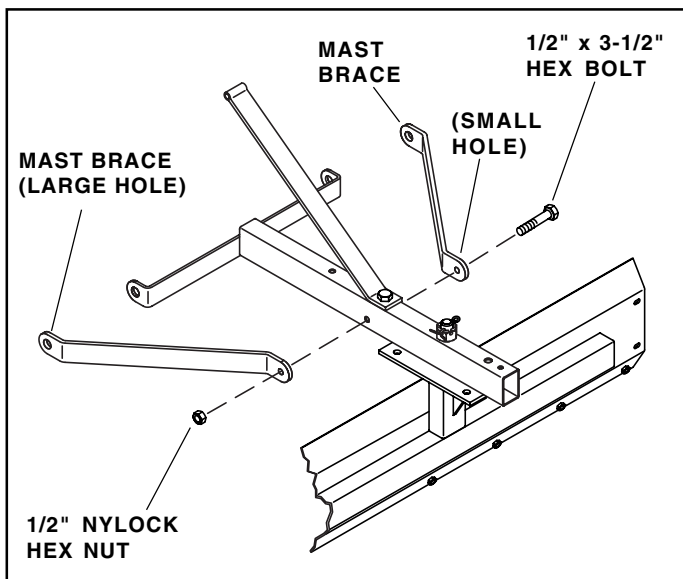

FIGURE 5
5. Attach two mast braces to the sides of the mast assembly using a 1/2" x 3-1/2" hex bolt and 1/2" Nylock hex nut. Use the end of each brace with the smallest hole. **Do not tighten yet.** See figure 5.